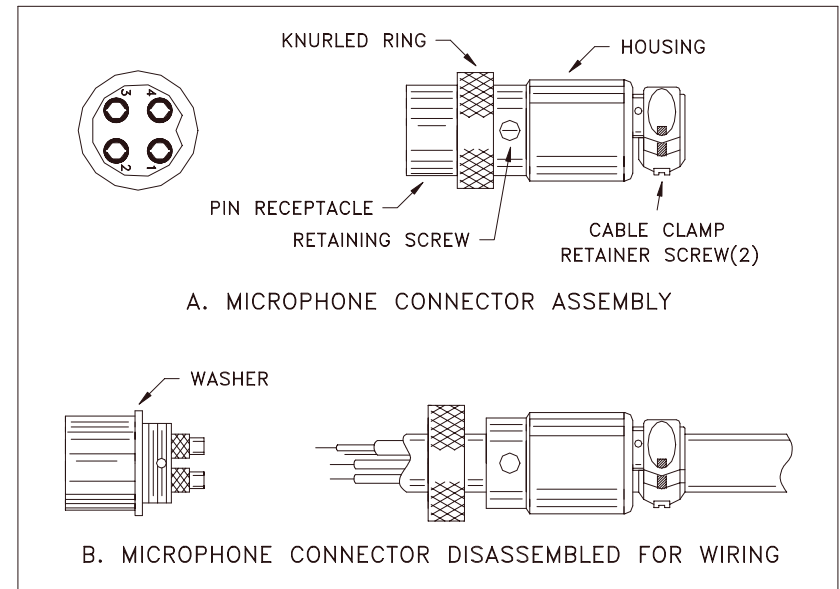

Fig. 2 Microphone plug wiring
4. Feed the microphone cable through the housing, knurled ring and washer as shown Fig. 2.